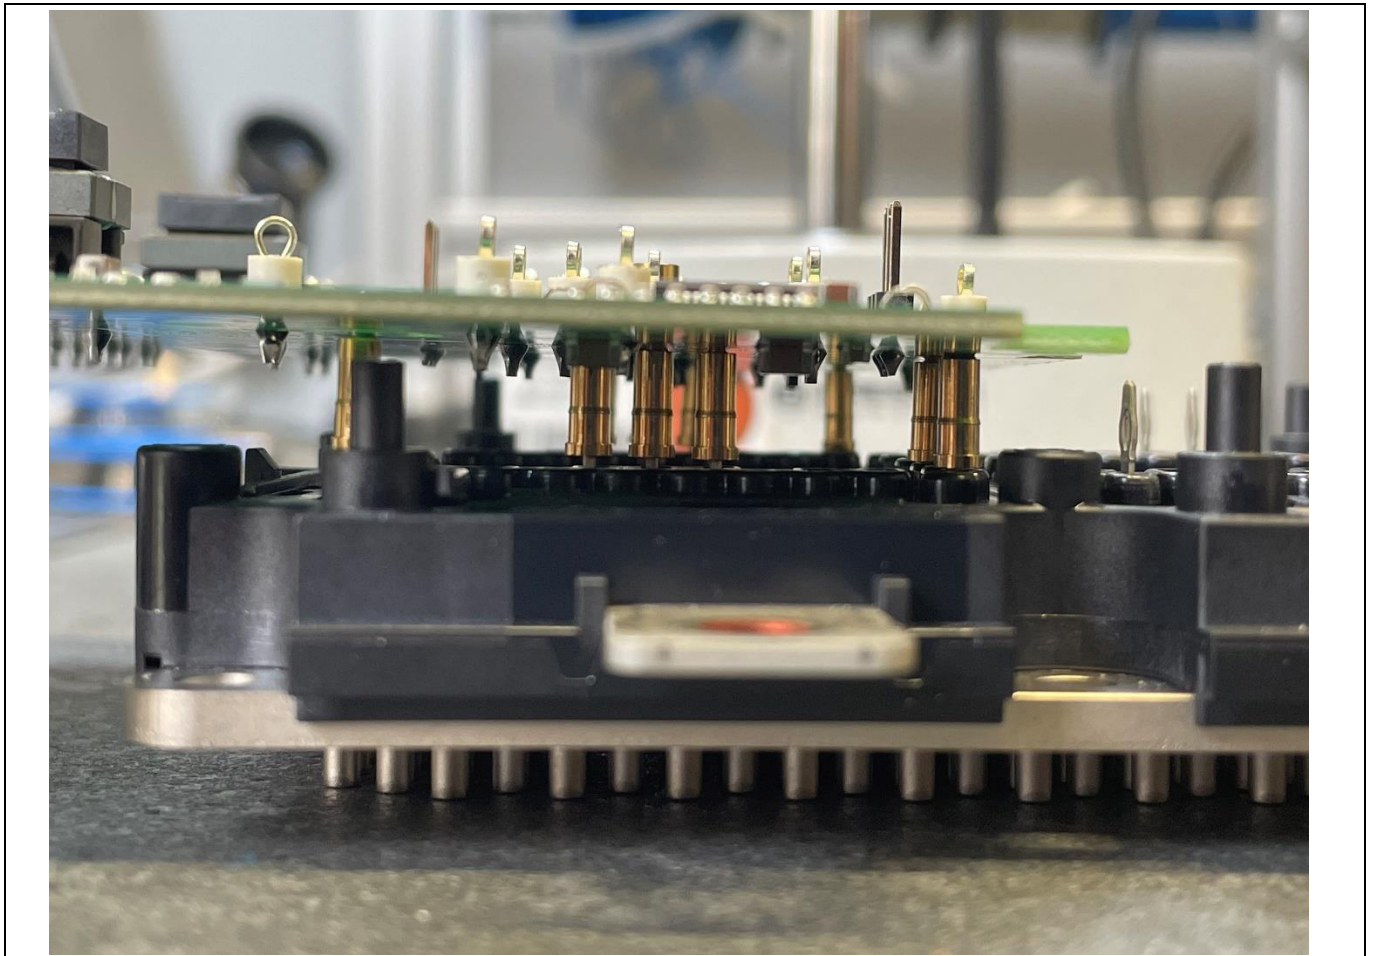

Figure 27 Connection to HPDrive Gen2 SiC module using terminal connectors
- Since the HybridPACK™ Drive module consists of PressFIT pins, it is recommended to use pin receptables, as shown in Figure 27, in order to provide flexibility to disconnect and reconnect the power module